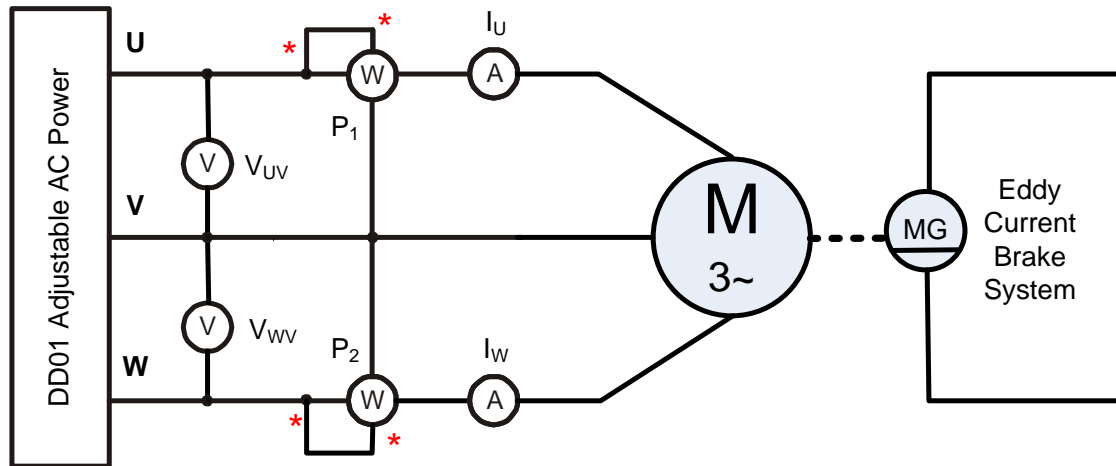

Figure 2. Experimental Setup
- The experimental setup for this experiment is shown on Figure 2.